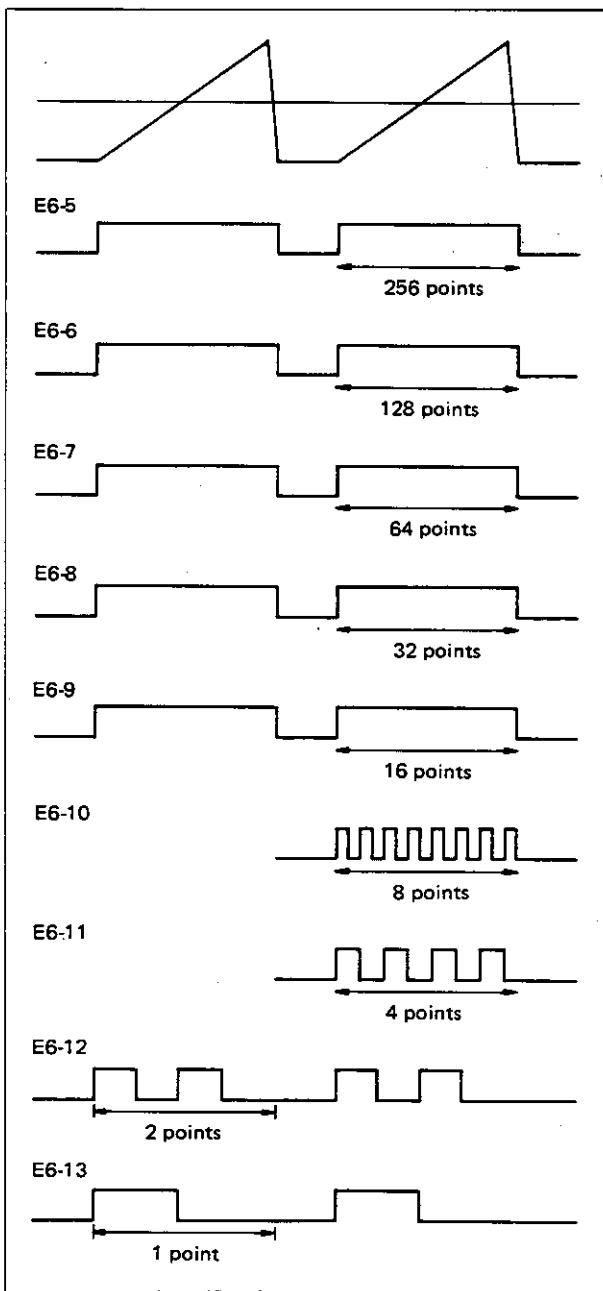

Fig. 6-17 A/D Converter TTL Signals
- (5) Check that TTL signals are applied to Pins 5 through 13 (Bits 9 through 1) of A/D Converter E6. See Fig. 6-17.